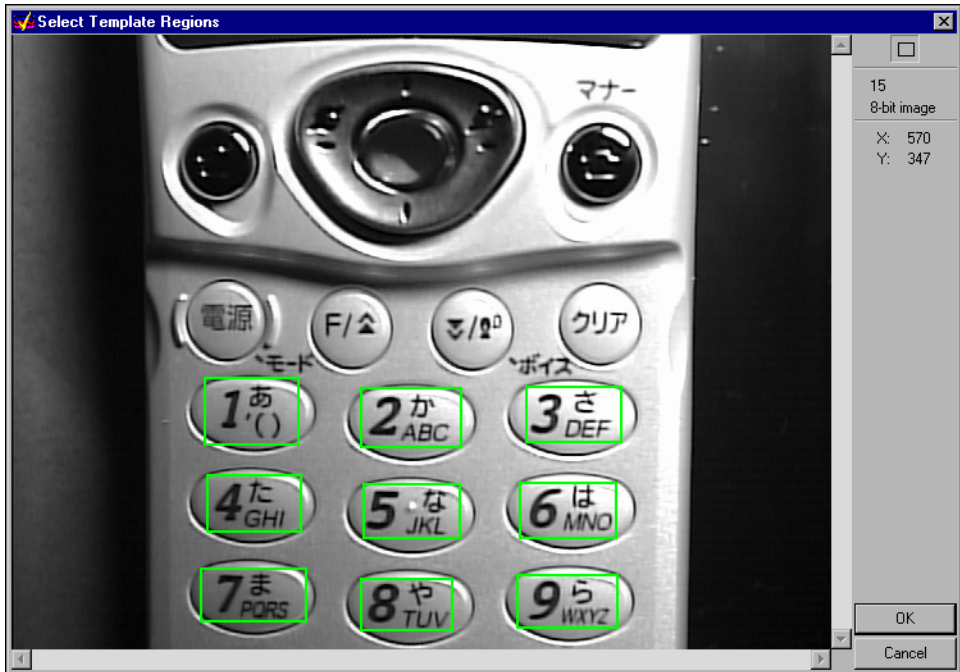

Figure 2-10. Keypad Template Regions
3. Draw a rectangular region around the key with a 1 printed on it. Hold down the <Ctrl> key and draw regions around all of the other number keys, as shown in Figure 2-10.